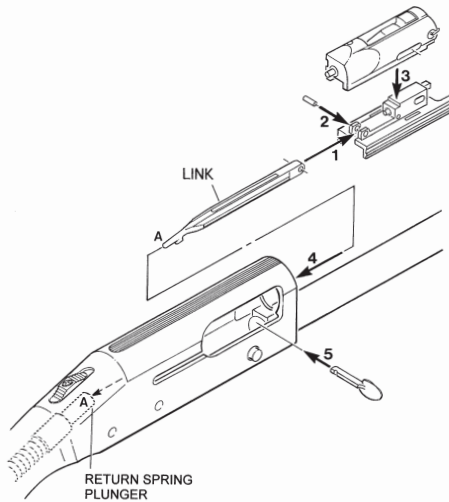

Figure 14
1. Position the link in the slot in the rear of the slide (Figure 14).